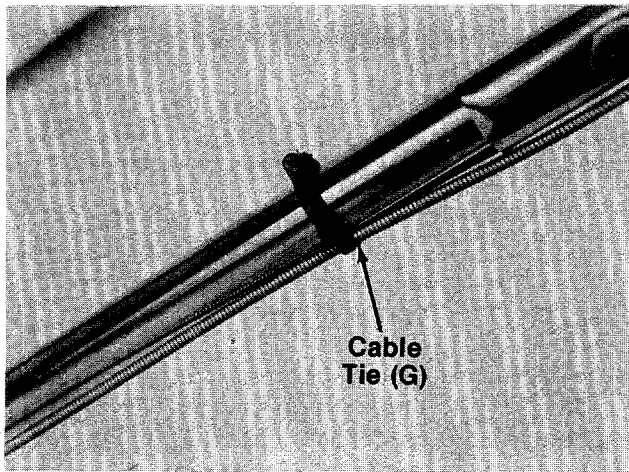

FIGURE 11.
17. Secure control cables to upper and lower handles with cable ties (G). See figure 11.